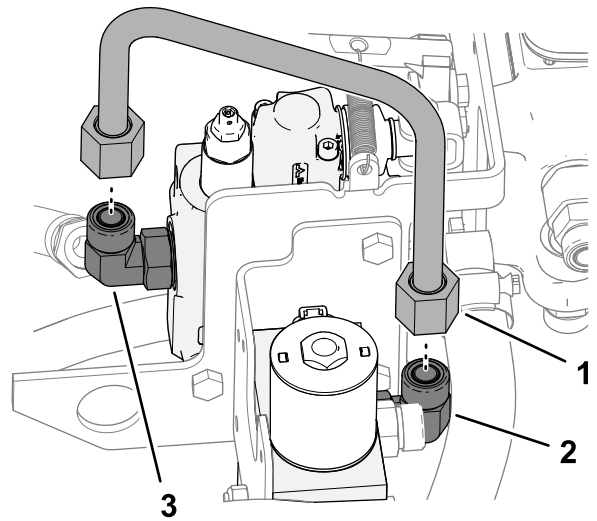

Figure 21
1. Assemble the U-shaped tube to the 90° fitting in port-P of the auxiliary valve and the 90° in port fitting in Port A in the low-flow valve (Figure 21).